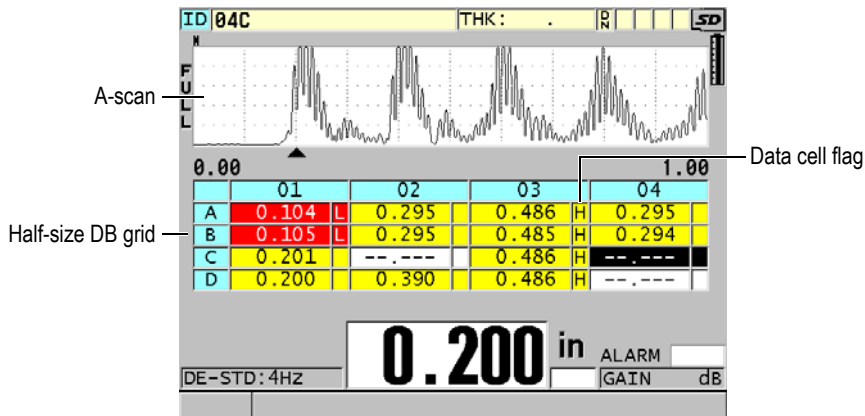

Figure 10-8 Example of the half-size DB grid
The database grid (DB grid) is a table representation of 2-D data. This representation gives you the ability to move freely in any direction on a grid rather than follow a preset list of IDs. Instead of automatically incrementing to the next ID location, you can use the arrow keys to move to a location that is more convenient. You can simultaneously display the A-scan, the DB grid, and the thickness reading (see Figure 10-8 on page 147). You can configure the grid cells to show a data cell flag and a background color corresponding to the range in which their thickness reading falls.
8. Set **DATA CELL FLAG** to one of the available options to display a single data flag with each data cell in the DB grid. The data cell flag is a letter that appears in a small box to the right of the thickness value in the data cell (see Figure 10-8 on page 147). The available options are: